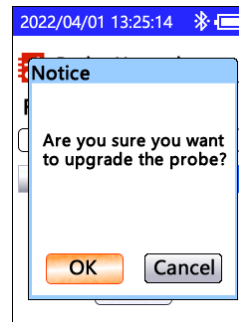

Figure 32. Confirm Upgrade
4. Loosen the connector of the sensor cable. Select **Upgrade** in **Sensor Upgrade screen**, then select **OK** in pop-up confirmation box (Figure 32).